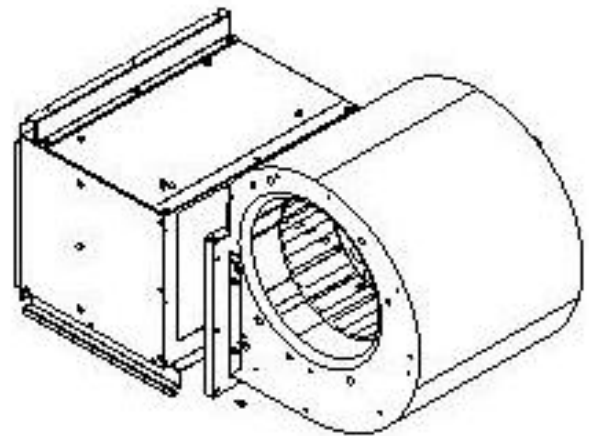

Figure 5: Blower Assembly and Mounting Screw Location
5. Remove the two screws on front flange of the blower mounting plate and slide the blower out of the furnace on the track. Refer to Figures 5 and 11.